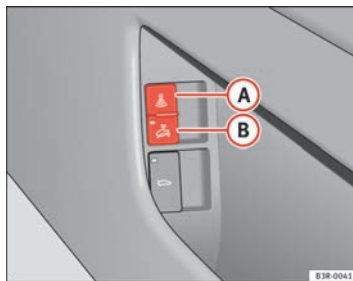

Fig. 78 Interior monitoring switch
⇒ page 107, fig. 78.
- Open the door and pull out switch **(B)** (with the symbol ) to one side of the storage compartment, in the driver door ⇒ page 107, fig. 78.